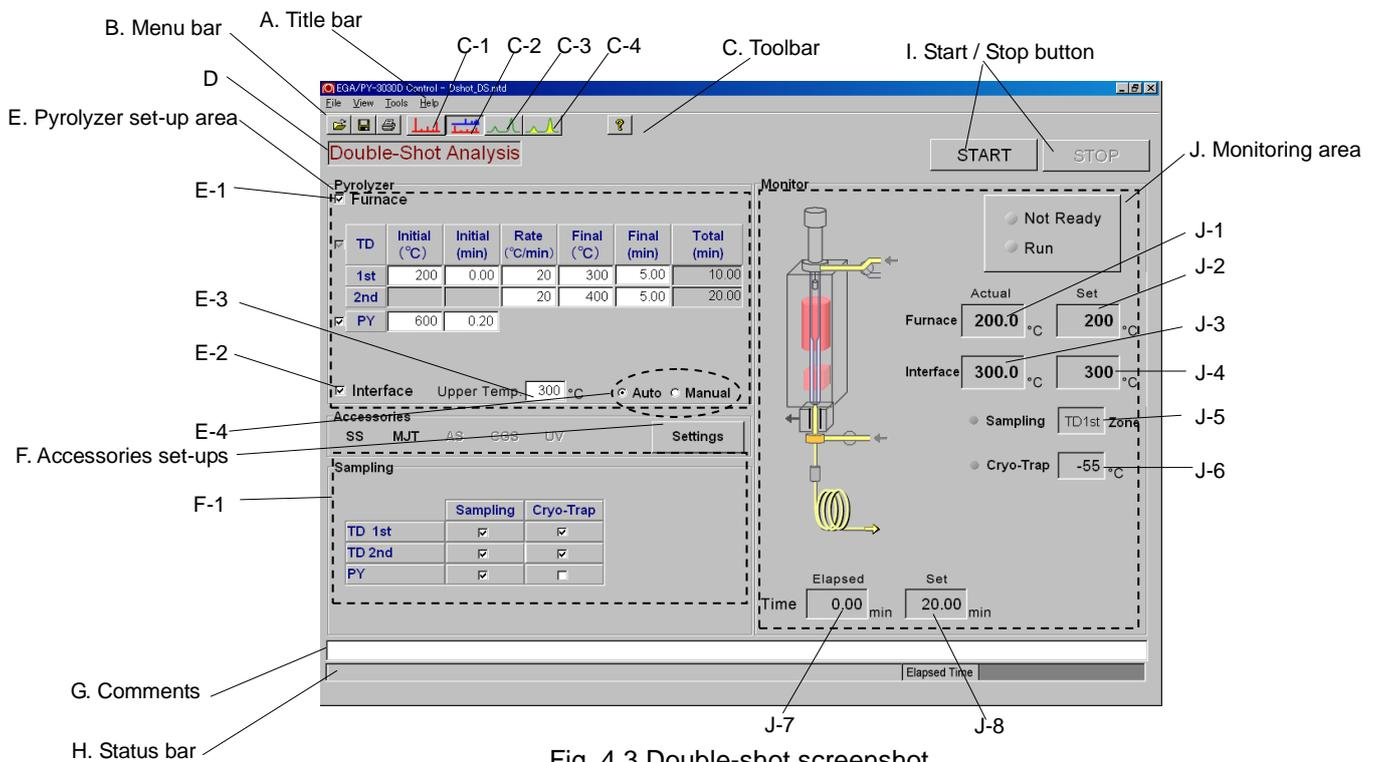
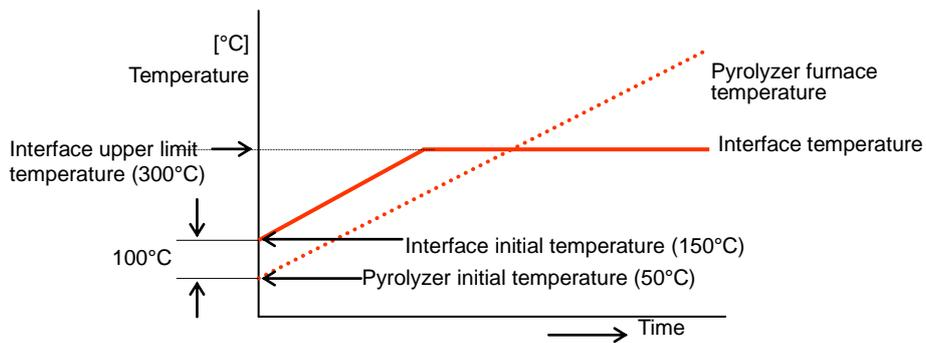

Fig. 4.3 Double-shot screenshot
Fig. 4.6 Auto control of the interface temperature
Fig. 4.3 shows the Double-shot screen of the operating software.
- (1) Click on “Settings” button (F. in Fig. 4.3) will display the screen shown in Fig. 4.4.
- (2) “Check” the small checkbox to indicate that the device will be used.
- (3) If air is used as an atmosphere gas, refer to section 4.2.1.3 of this manual.
- (4) Click “OK” to end.
The interface temperature can be set to either the “Auto” or “Manual” mode. In the “Auto” mode, the interface temperature is automatically controlled based upon the pyrolyzer furnace temperature; on the other hand, in the “Manual” mode, it is always controlled at the selected temperature. These modes are entered - see E-4 of Fig. 4.3. Normally, the “Auto” mode is used. If the “Manual” mode is selected, the interface temperature is controlled at a constant temperature - see E-3 of Fig. 4.3. In the “Auto” mode, the temperature is maintained 100°C above the pyrolyzer furnace temperature; the interface temperature set in E-3 is the upper limit temperature. For example, the relationship between the Pyrolyzer furnace and interface temperatures is shown in Fig. 4.6. In this example, the “Auto” mode is selected using E-4 and the upper temperature is set to 300°C using E-3; the Pyrolyzer furnace is heated from 50°C to 500°C. The interface initial temperature is automatically set to 150°C, 100°C above the Pyrolyzer furnace temperature, and the temperature increases to 300°C - the upper temperature limit (E-3).